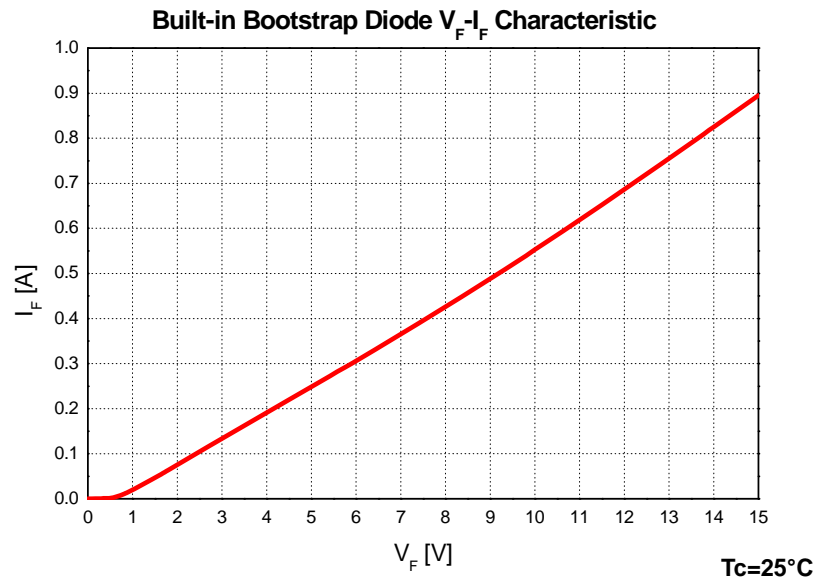

Figure 2. Built-in Bootstrap Diode Characteristics (Typical)
- Built-in bootstrap diode includes around $15\text{ }\Omega$ resistance characteristic. Please refer to Figure 2.